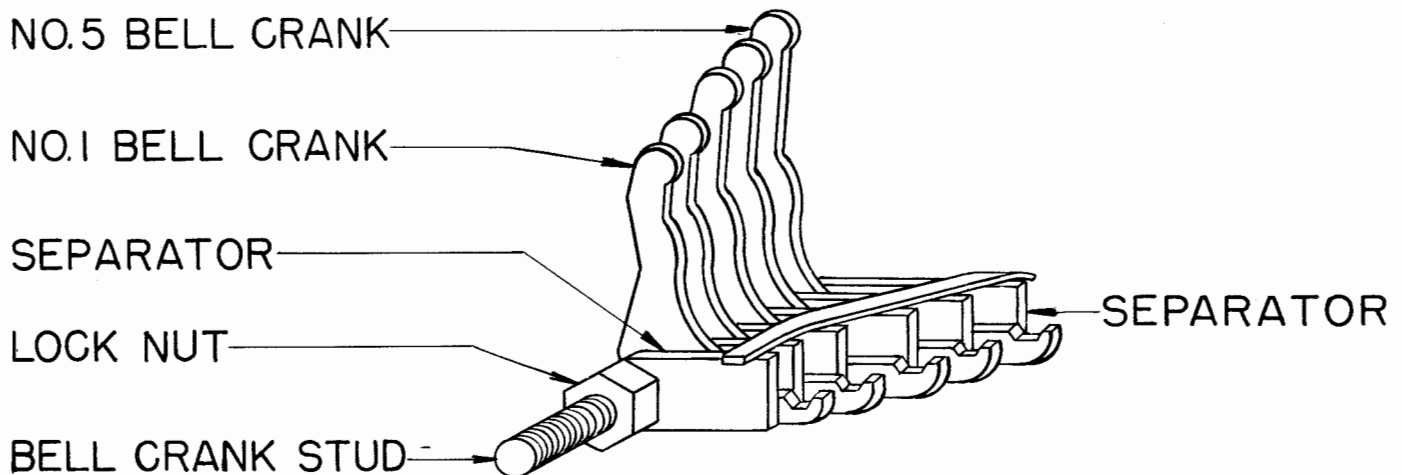

Figure 12
2.16 Lower Vertical-link Bellcrank Separator Plates shall meet the following requirements with the mainbail in its lowermost position. See Figure 12.